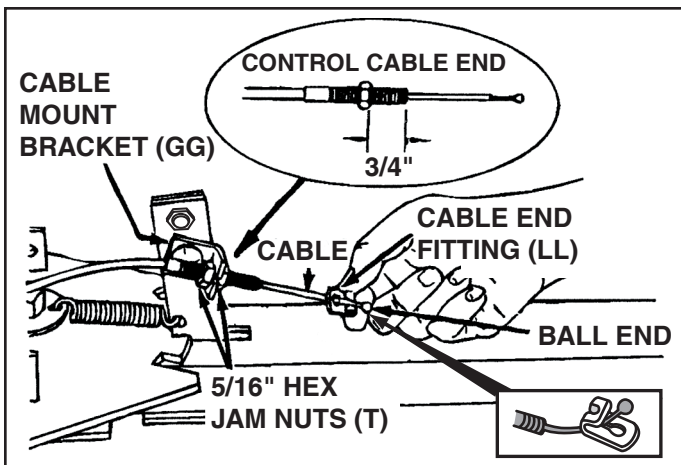

FIGURE 13
STEP 12: (SEE FIGURE 13)
- Select the control cable with two threaded ends. Select the threaded end that has no rubber cap or nuts and assemble a 5/16" hex jam nut (T) approximately 3/4" onto the threads. Insert the threaded end of the cable through the round hole in the cable mount bracket (GG) and secure it with another 5/16" hex jam nut (T). **Tighten** the second nut while keeping the first nut in place.
- Assemble the ball end of the cable wire up through the hole in a cable end fitting (LL) and then slide it back inside the curled edge of the fitting.